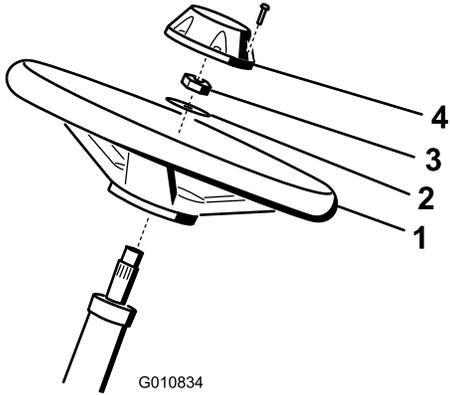

Figure 4
- Slide the steering wheel onto the steering shaft (Figure 4).
- Slide the washer onto the steering shaft (Figure 4).
- Secure the steering wheel to the shaft with a locknut and tighten it to 27 to 35 N·m (20 to 26 ft-lb) (Figure 4).
- Install the cap to the steering wheel and secure it with 6 bolts (Figure 4).